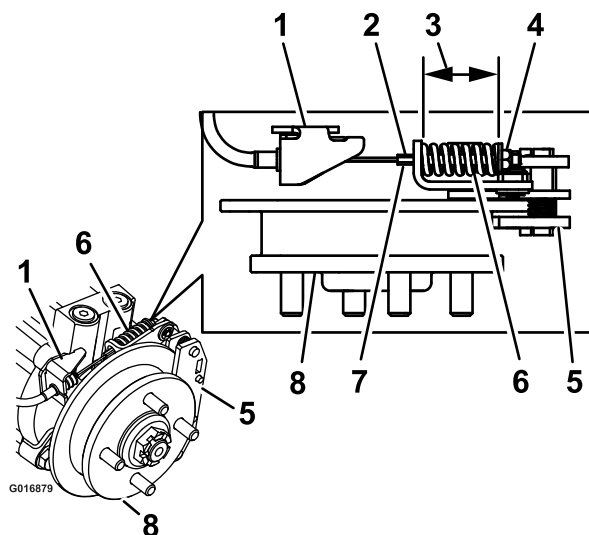

Figure 72
9. Hold the threaded rod end with a tool and adjust the lock nut until the spring length is between 1-1/2 and 1-9/16 inches (3.8 and 4.0 cm) (Figure 72). Do Not allow the cable to turn when the nuts are being loosened.